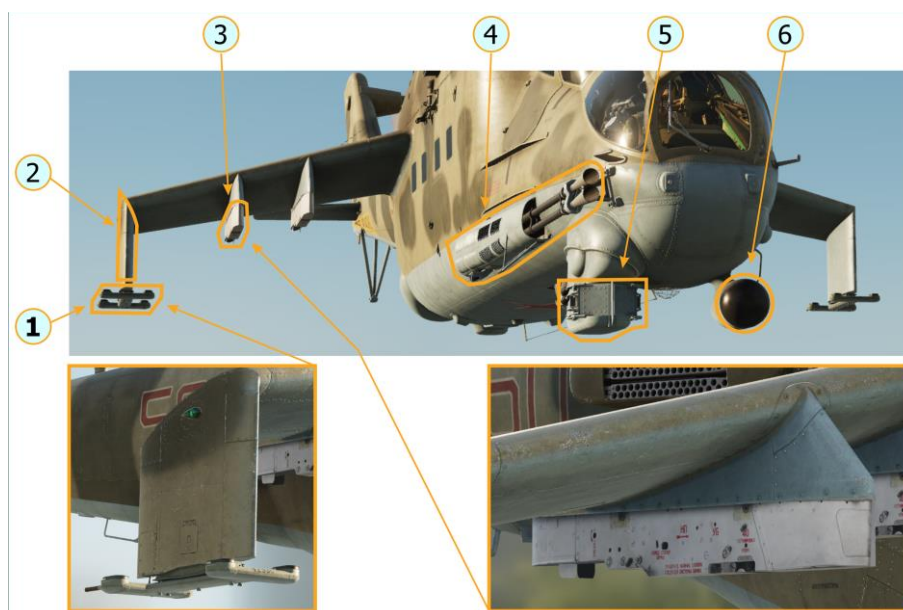

Fig. 4.1. External elements of the helicopter weapons system
- beam holders BD3-57Kr-VM (4 pcs), Fig. 4.1; _____